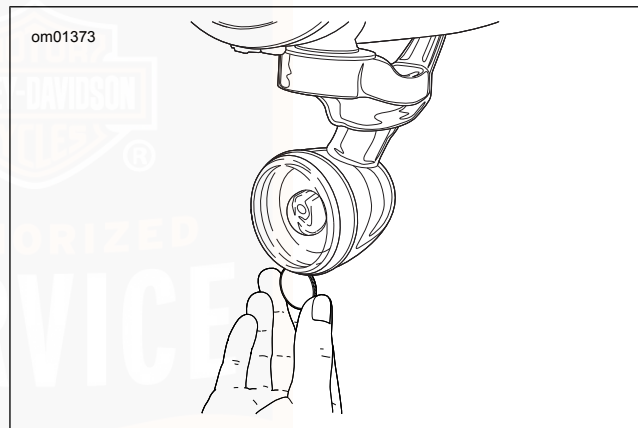

Figure 99. Lens Cap Notch
1. See Figure 99. Insert a coin or the blade of a small screwdriver into the notch at the bottom of the lens cap. Carefully twist until the lens cap pops out of the lamp housing.